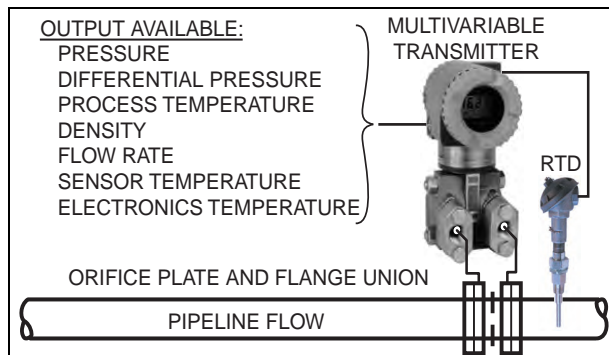

Figure 1. Flow Rate Measurement with Orifice Plate
- ▶ Can be used with primary flow devices such as orifice plates (see Figure 1), flow nozzles, Venturi tubes, and averaging pitot elements